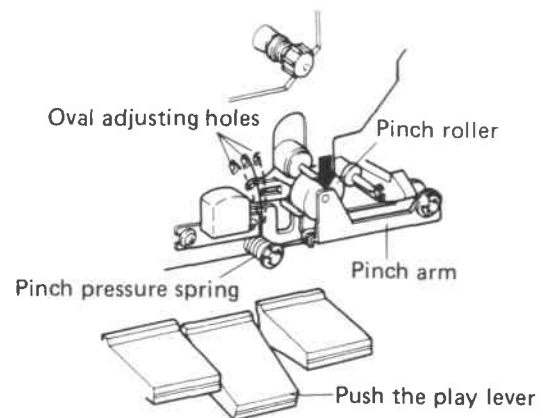

Fig. 20 Pinch roller pressure adjustment
1. Place the set into the PLAY state, push a tension gauge (rod balance: 500g/full scale) against the part indicated by the ↓ in Fig. 20 until the pinch roller is separated from the capstan (approximately 0.5mm).